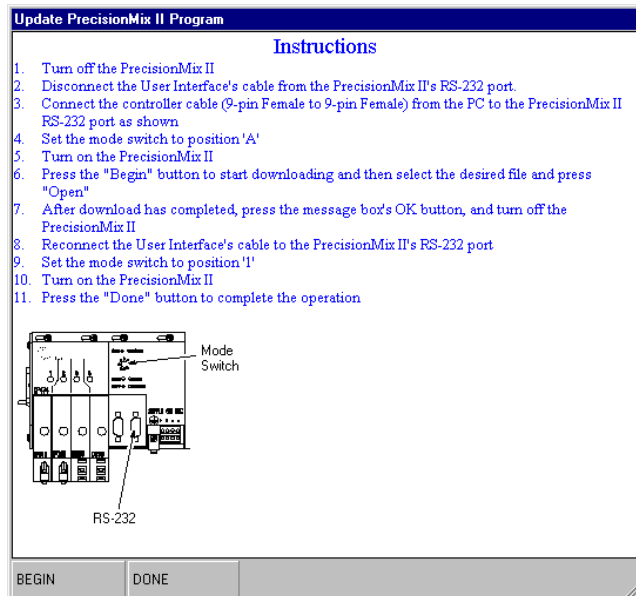

Fig. 13.35
- Press the DONE button to close the Instructions window. See Fig. 13.35.